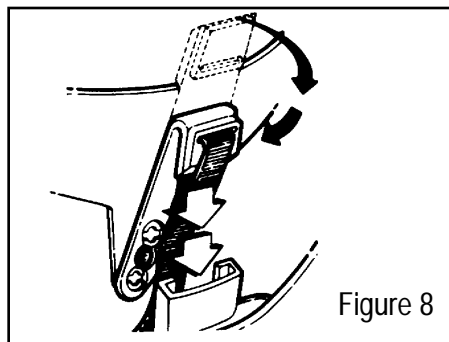

Figure 8
3. Bending hanger keys at hinge, insert keys into respective key slots. Push firmly until keys snap into place (Figure 8).